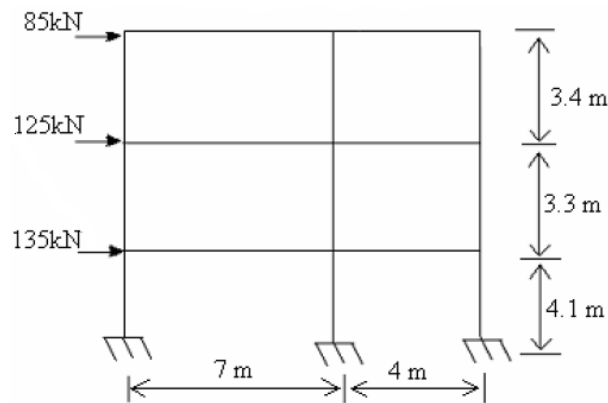

Figure 2.7
9. Analyze the frame shown in Figure 2.7 by Cantilever method. Draw the bending moment diagram and Cross-sectional area of all columns is equal